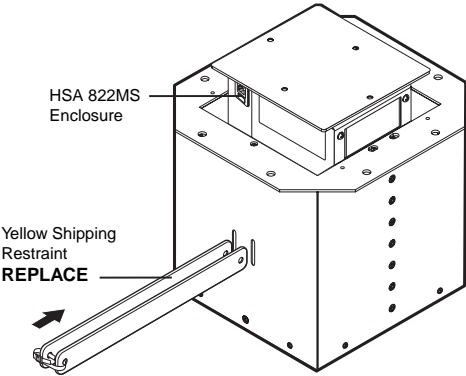

Figure B-8 — Installing the shipping restraints
3. With the platform extended approximately 1" (2.5 cm), insert the yellow shipping restraints through the slotted holes in one side of the enclosure's shroud (figure B-8) and out the holes in the opposite side. Use the included tie-wraps to secure the shipping restraints in place.